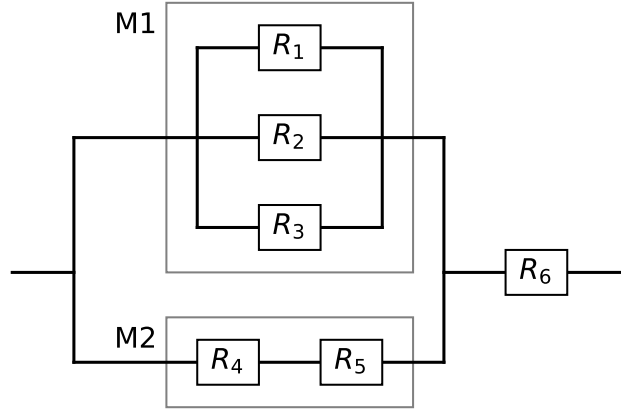

Fig. 9.1: System schema
**Solution 9.6 (a)** The block diagram of the system is shown in Fig. 9.1.